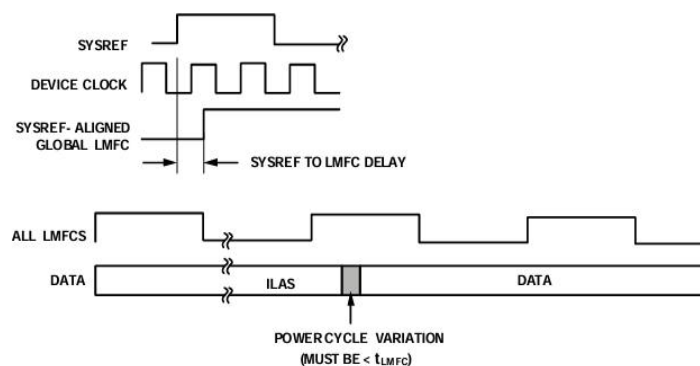

Figure 36 SYSREF and LMFC
The JESD204B protocol organizes data samples into octets, frames, and composite frames as described in the Transport Layer section. The LMFC is synchronous to the start of these composite frames. In subclass 1 operation, the  $\text{SYSREF}\pm$  signal is used to synchronize the LMFC of each device in a link or multiple links (in CW9694,  $\text{SYSREF}\pm$  also synchronizes the internal sample distributor), see Figure 36. The JESD204B receiver uses composite frame boundaries and buffering to achieve consistent latency across lanes (even across multiple devices) and to achieve fixed latency between power cycle and link reset conditions.
- Total delay variations for all channels, links and devices must be  $\leq 1$  LMFC ( $t_{\text{LMFC}}$ ) cycle (see Figure 36).